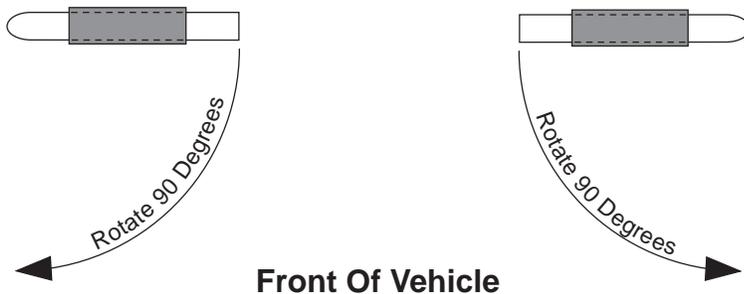

Figure 2
**STEP 1:** Locate two headlamp lock / release rods on top of driver's side headlamp. Remove lock / release rods by rotating 90 degrees towards front of vehicle and then lifting rods straight up (see figure 2). Once rods are removed, headlamp should easily slide out of grill assembly. Unplug wire harnesses from bulbs (DO NOT REMOVE BULBS!) and place headlamp assembly and rods in a place where they cannot be broken or lost.